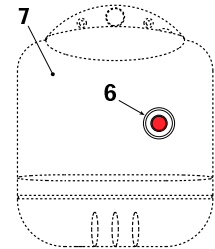

fig. 1
To shut the boiler down, move the switch 5 (Fig. 1) on the control panel to position "0" and close the fuel on-off valve.
a - Burner lockout signalled by the corresponding light 6 (Fig. 1). Refer to the burner manual.
- 2 Set the thermostat 4 (Fig. 1) to the desired value.
- 3 Close the switch upstream from the boiler and switch 5 (Fig. 1) on the control panel.